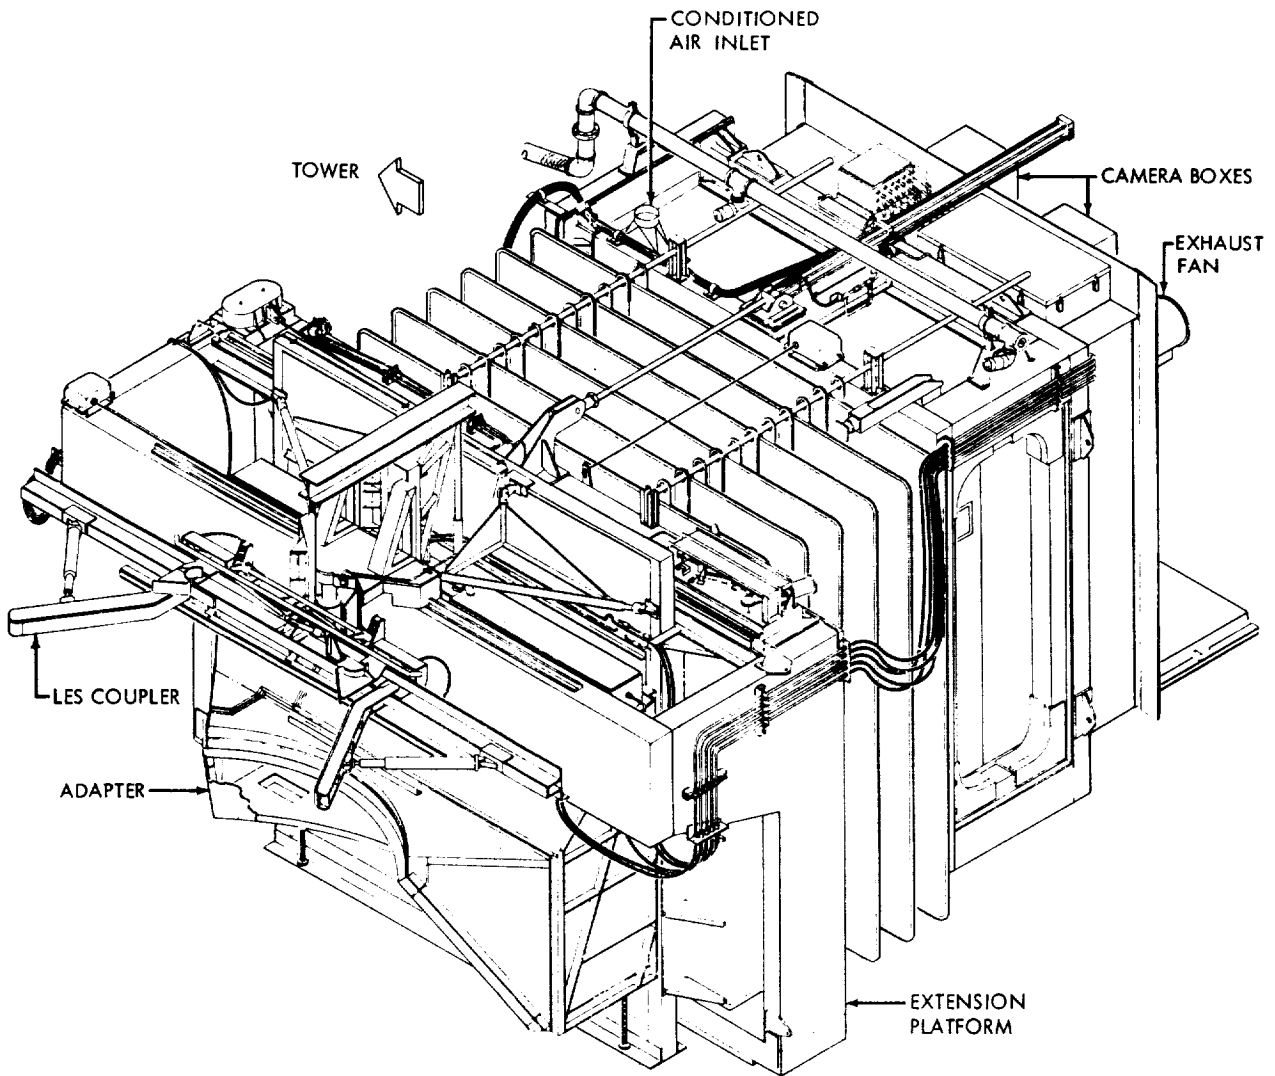

Figure 1-1. Environmental Chamber Assembly
1.2.1 GENERAL. The Environmental Chamber (Figure 1-1) is mounted on the vehicle end of the Access Arm and serves two important functions. The Chamber provides a work area with a partially controlled environment immediately adjacent to the Command Module and it provides the platform from which entry is made into the Module. The Chamber tracks vehicle motion while coupled to the launch vehicle. The pneumatic system of the Chamber is remotely actuated from the Portable Arm Control Console (PACC) on launcher level 320 or from the Launch Control Center (LCC) to control the connecting to or disconnecting and withdrawing from the vehicle. Connecting and disconnecting is accomplished even while the vehicle is oscillating under extreme conditions. The Environmental Chamber basically consists of the main enclosure assembly which is bolted to the Access Arm and the extension platform assembly.